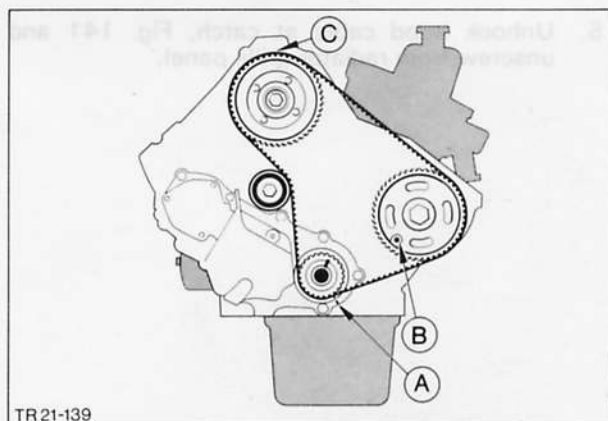

Fig. 144. Toothed belt pulley markings
12. Crank engine until crankshaft gear mark is aligned on timing cover mark, Fig. 144.